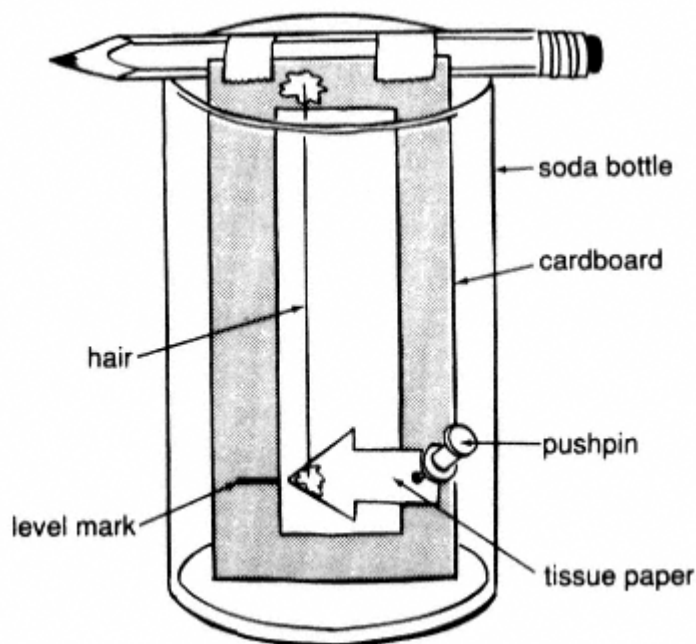

Figure 2.1
5. With the point of the pushpin through the hole in the arrow, insert the pin into the cardboard (see Figure 2.1).